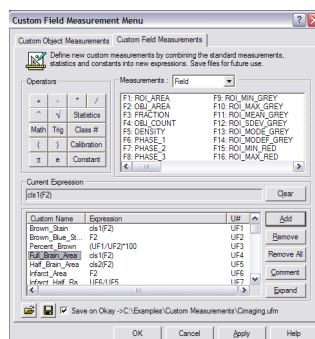
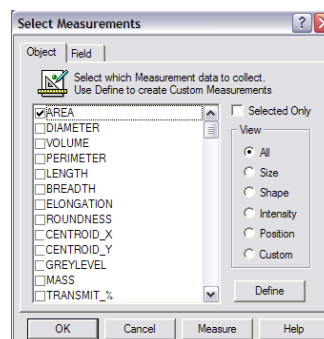

fig.45
fig.44
6. Click **Measure > Define** (fig.44), the Custom Object Measurement Menu appears (fig.45). Click on the Custom Field Measurement Tab > **Add > Type Full_Brain_Area > OK > Class #**, enter 1. When multiple sliders of measurements are made, they are referenced as Class numbers. In this example, the first measured Area is Class 1. > Press **F2: OBJ_Area** in the measurements field. The custom measurement should look like figure 45. > Press **OK.**
7. Check **Area** in the **Object** tab and the custom measurement, **Full_Brain_Area** in the **Field** tab of the **Select Measurement** window and press **OK** (fig.44).